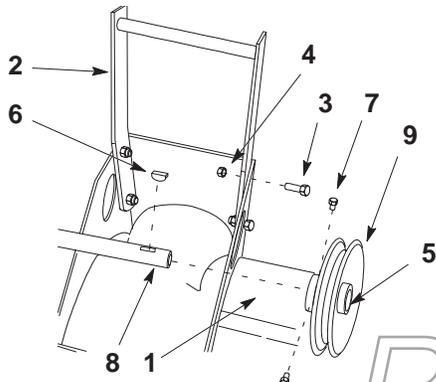

Figure 2
1. Tip the housing onto its front and insert the frame into the snowthrower with angle bend up (Fig. 2).
4. Install the pulley so the hub **without** the set screws is flush to end of the shaft (Fig. 2).
5. Secure pulley to shaft with both set screws (Fig. 2).
3. Install the key into the shaft (Fig. 2)..